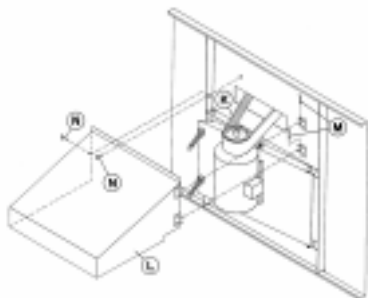

Figure 19 - Motor Guard and Powerband Belt Installation.
7. Install Powerband belt **K** (Figure 19) around fan sheave and motor sheave. Tighten belt by adjusting nuts on "J" bolts. Do not over tighten the belts. The center of the belt should deflect approximately 19 mm with moderate hand pressure.
9. To install Motor Guard **L**, match up hinges and install hinge pins **M**. (See Figure 19).
10. Close Motor Guard and install (2) wing bolts **N**.